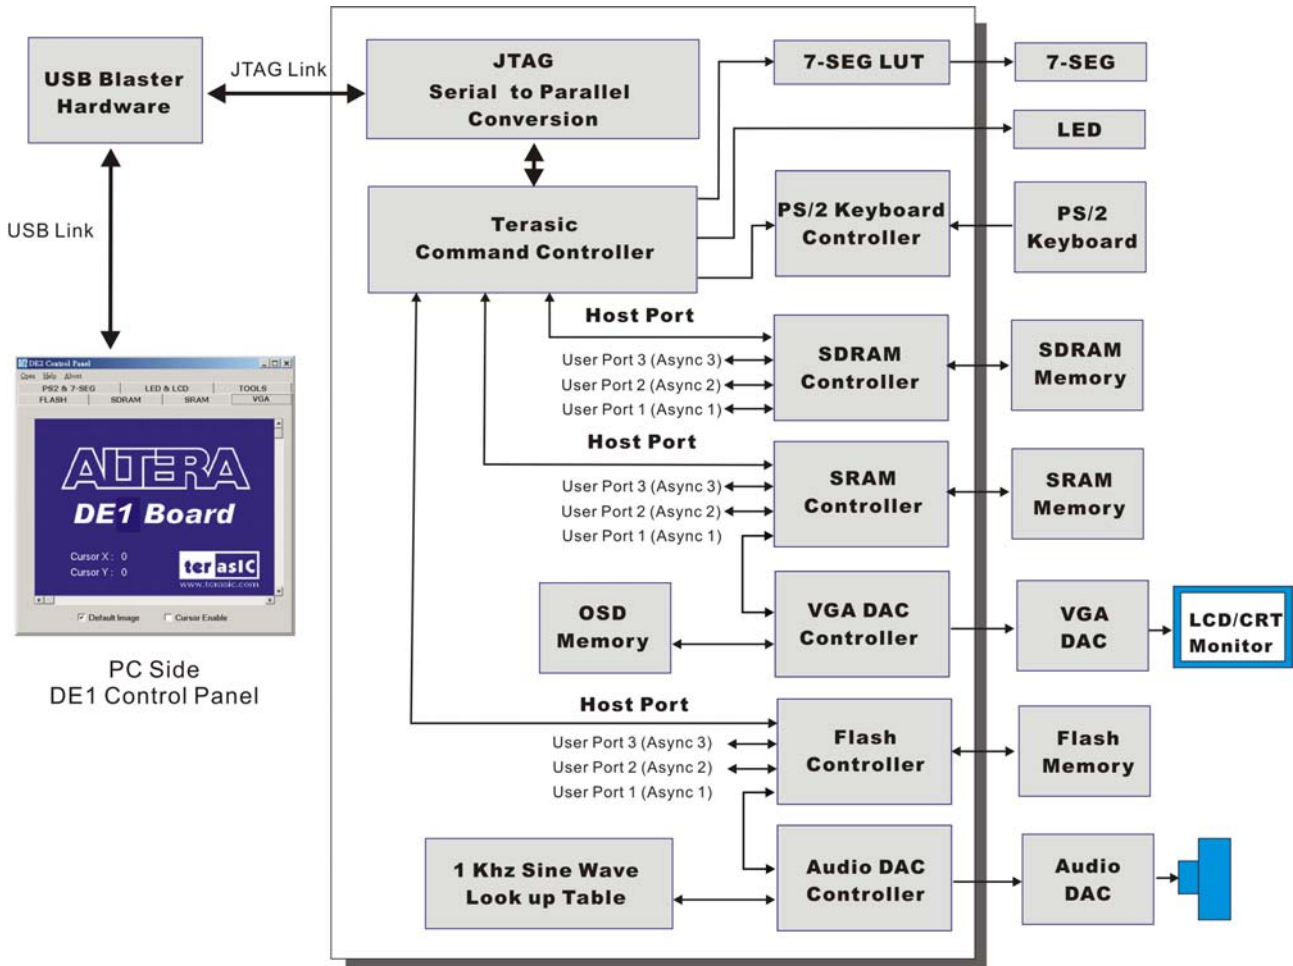

Figure 3.7. The DE1 Control Panel block diagram.
To run the Control Panel, the user must first set it up as explained in Section 3.1. Figure 3.7 depicts the structure of the Control Panel. Each input/output device is controlled by a controller instantiated in the FPGA chip. The communication with the PC is done via the USB Blaster link. A Command Controller circuit interprets the commands received from the PC and performs the appropriate actions. The SDRAM, SRAM, and Flash Memory controllers have three user-selectable asynchronous ports in addition to the Host port that provides a link with the Command Controller. The connection between the VGA DAC Controller and the FPGA memory allows displaying of the default image shown on the left side of the figure, which is stored in an M4K block in the Cyclone II chip. The connection between the Audio DAC Controller and a lookup table in the FPGA is used to produce a test audio signal of 1 kHz.
3. Select the Asynchronous 1 port for the Flash Multiplexer and then click on the **Configure** button to activate the port. You need to click the Configure button to enable the connection from the Flash Memory to the Asynchronous Port 1 of the Flash Controller (indicated in Figure 3.7).
- Note that the Asynchronous Port 1 is connected to the Audio DAC part, as shown in Figure 3.7. Once you selected Asynchronous Port 1 and clicked the Configure button, the Audio DAC Controller will communicate with the Flash memory directly. In our example, the *AUDIO_DAC* Verilog module defines a circuit that reads the contents of the Flash memory and sends it to the external audio chip.